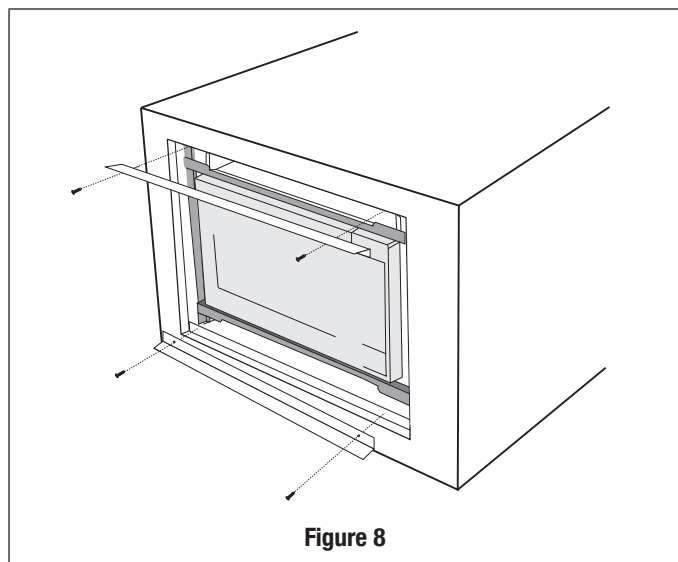

Figure 8
5. Install AIR DEFLECTORS top and bottom. Center (left and right) the AIR DEFLECTORS above and below the installed BACK FRAME. Secure AIR DEFLECTORS with 4 SCREWS E. See Figure 8. Mark holes and pre-drill the wood cleats with $\frac{1}{16}$ " drill bit.